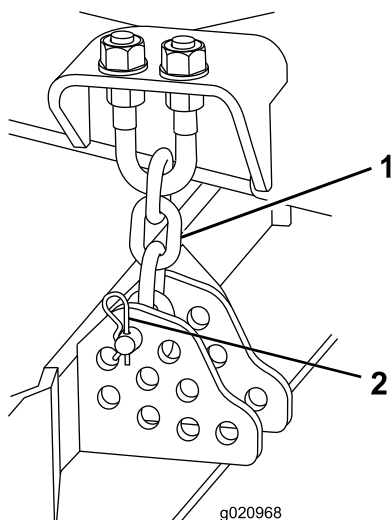

Figure 17
- Remove the hairpin cotter and clevis pin securing the height-of-cut chains to the rear of the cutting unit (Figure 17).